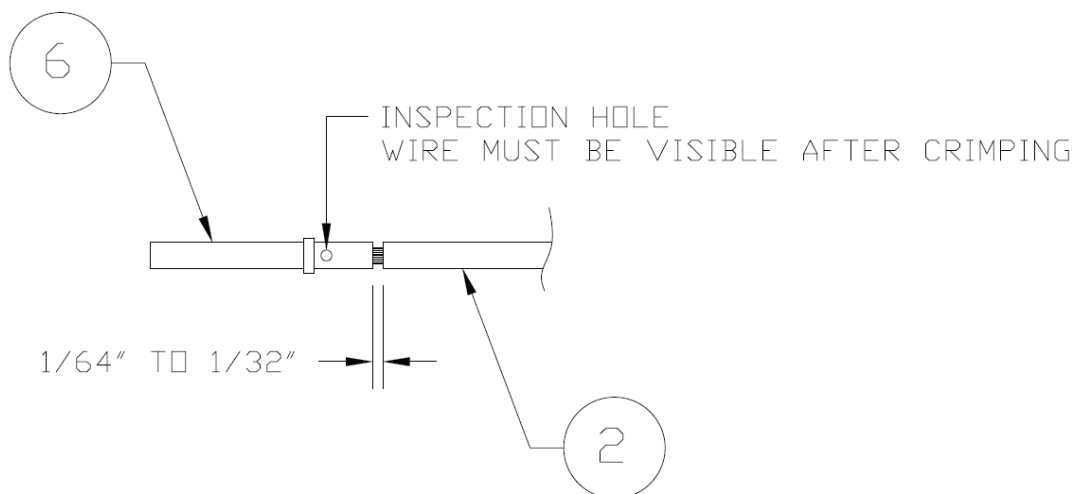

Figure 16-7 Insulation/Contact Clearance
5. Strip back approximately 0.17 inches of insulation from each wire of the shielded cable (item 2) and crimp a contact (item 6) to each conductor. It is the responsibility of the installer to determine the proper length of insulation to be removed. Wire must be visible in the inspection hole after crimping and the insulation must be 1/64 – 1/32 inches from the end of the contact as shown in Figure 16-7.
2. Strip back approximately 0.17 inches of insulation and crimp a contact (item 6) to the 4" length of 22 AWG insulated wire. It is the responsibility of the installer to determine the proper length of insulation to be removed. Wire must be visible in the inspection hole after crimping and the insulation must be 1/64 – 1/32 inches from the end of the contact as shown in Figure 16-7.